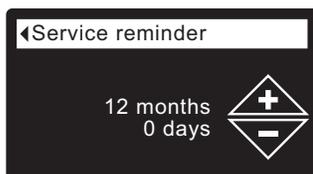

FIG. 98
7. Press the SELECT (O) button to display the Service reminder screen (See Figure 98).